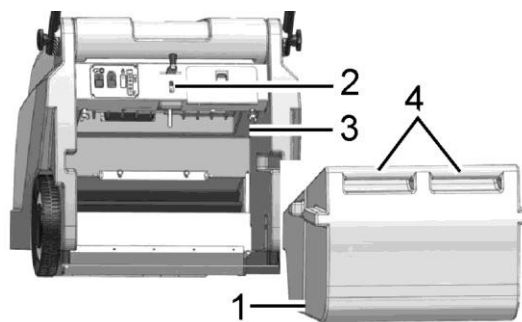

Fig. 11
Check the fill level of the debris container (Fig. 11/1) at regular intervals (max. load capacity 25 kg) and empty as necessary.
1. Switch the machine off and pull the locking mechanism (Fig. 11/2) on the debris container (Fig. 11/1) upwards.
2. Pull the debris container to the rear out of the machine using the handle (Fig. 11/4) and dispose of the waste according to the applicable environmental laws.
Check the seal (Fig. 11/3) weekly for signs of wear and change it as necessary.
1. Switch off the machine and pull the locking mechanism (Fig. 11/2) on the debris container (Fig. 11/1) upwards.
2. Pull the debris container (Fig. 11/3) out of the machine using the handle (Fig. 11/4).